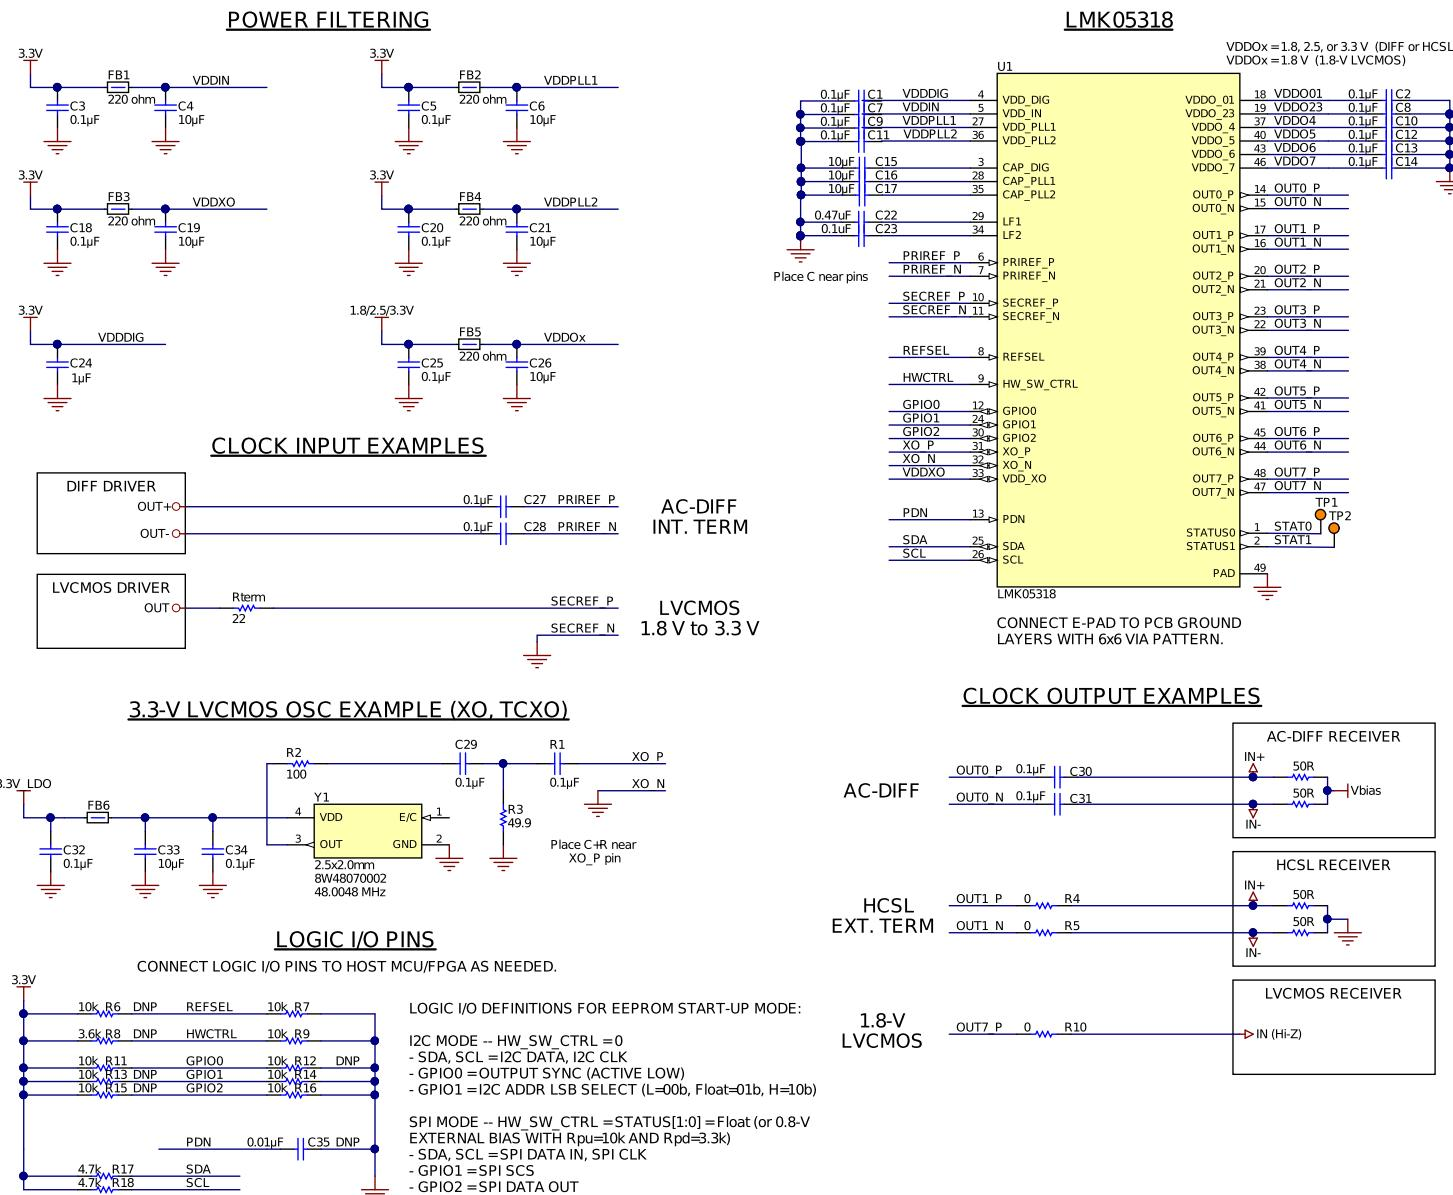

Figure 64. LMK05318 Reference Schematic Example
Figure 64 shows a reference schematic to help implement the LMK05318 and its peripheral circuitry. Power filtering examples are given for the core supply pins and independent output supply pins. Single-ended LVCMOS, AC-coupled differential, and HCSL clock interfacing examples are shown for the clock input and output pins. An external LVCMOS oscillator drives an AC-coupled voltage divider network as an example to interface the 3.3-V LVCMOS output to meet the input voltage swing specified for the XO input. The required
- For a 3.3-V LVCMS driver, follow the OSC clock interface example in Figure 64. Power the OSC from a low-noise LDO regulator or optimize its power filtering to avoid supply noise-induced jitter on the XO clock.
- Reference inputs: Follow the LVC MOS or differential clock input interface examples in Figure 64 or Clock Input Interfacing and Termination.
- Clock output Interfacing: Follow the single-ended or differential clock output interface examples in Figure 64 or Clock Output Interfacing and Termination.
- Power all the VDD pins with proper supply decoupling and bypassing connect as shown in Figure 64.